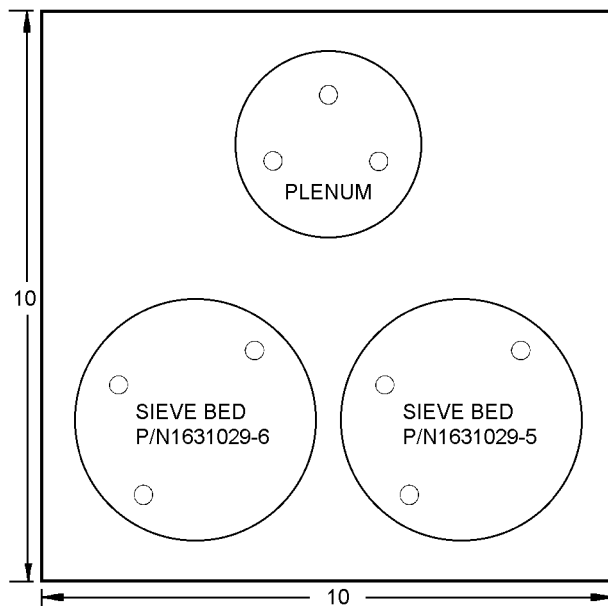

Figure 4-9. Peg Board for Plenum and Sieve Bed Spacers
When performing step 12, place height adjustment washers on peg board (figure 4-9) in the same location on peg board as removed from two sieve beds and plenum assembly. During assembly, the height adjustment washers must be replaced in the same location.
12. Remove height adjustment washer (16) from top of two sieve beds (17) and plenum assembly (18) and place on peg board (figure 4-9) in same position as removed from sieve beds and plenum assembly.